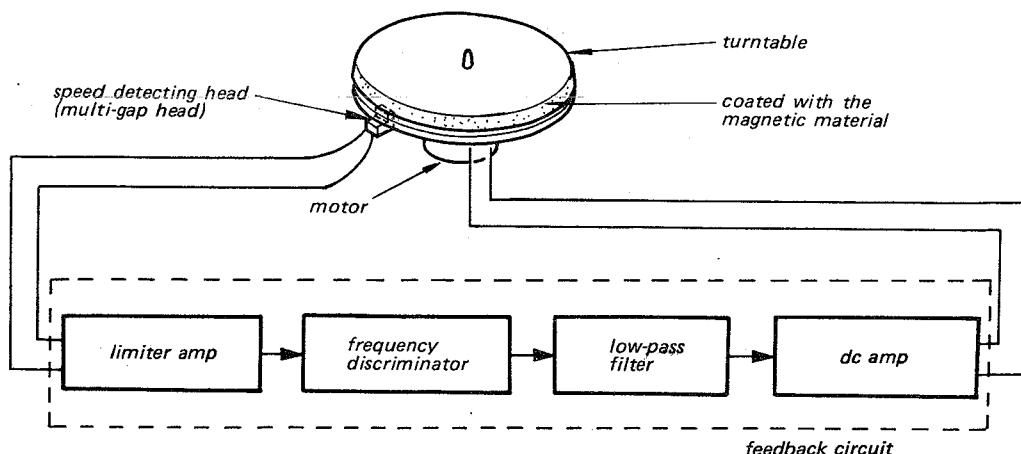

Fig. 1-2
The servo motor employs the frequency generator (FG) as a detector and the feedback circuit as shown in Fig. 1-2.